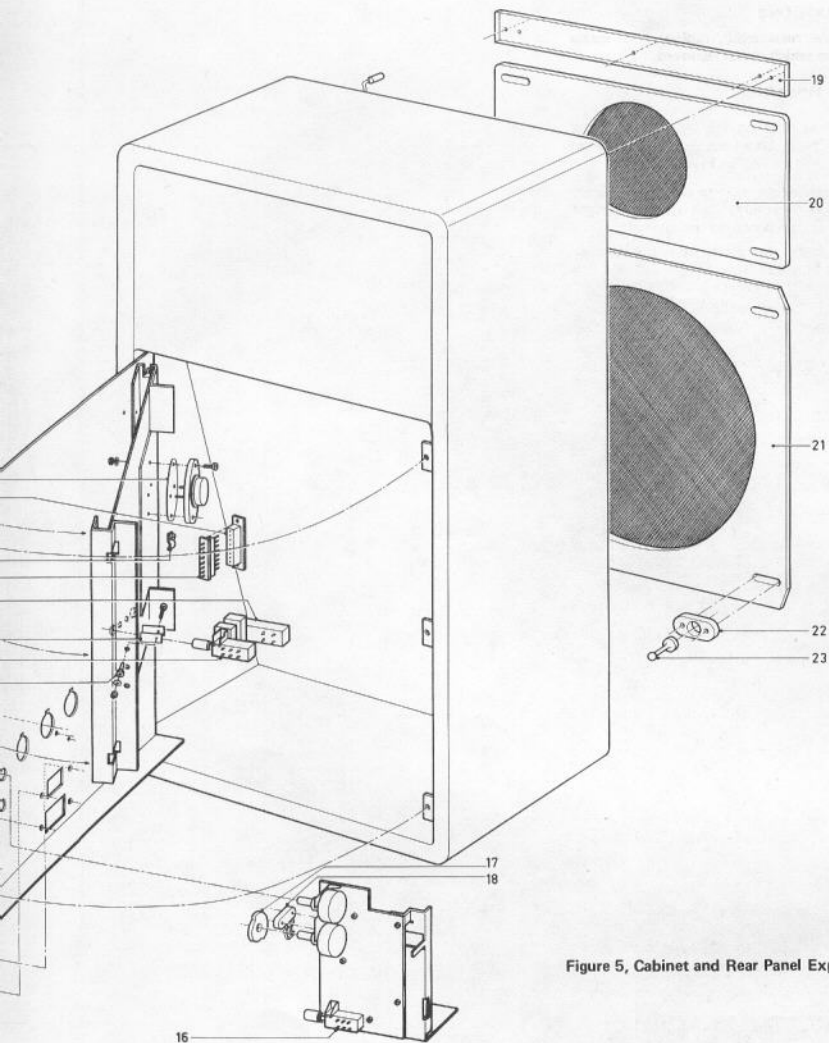

Figure 5, Cabinet and Rear Panel Exploded View
### Chassis Access (Refer to Figure 5)
1. Remove the five screws securing the rear panel to the speaker enclosure. These screws are designated by an "O" on the rear panel and an "A" in Figure 5.
3. To completely remove the rear panel from the speaker enclosure, disconnect Plug (4) from Socket (2) and lift the rear panel up and out of the hinge brackets.
4. To reassemble, reverse the preceding steps, making certain Plug (4) is inserted properly into Socket (2). This is accomplished by placing the referenced end of the plug adjacent to the referenced end of the socket.
### LED Access (Refer to Figure 5)
### Main PC Board Access (Refer to Figure 5)
CABINET REPLACEMENT PARTS LIST (Refer to Figure 5)